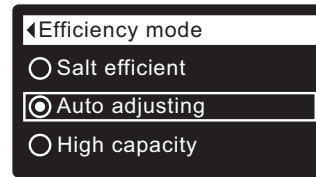

FIG. 86
8a. Efficiency mode: If the desired efficiency mode already has a dot next to it (See Figure 86), go to Step 9. Otherwise, press the DOWN (▼) or UP (▲) buttons to scroll to the desired efficiency mode, then press SELECT (O) to choose it.